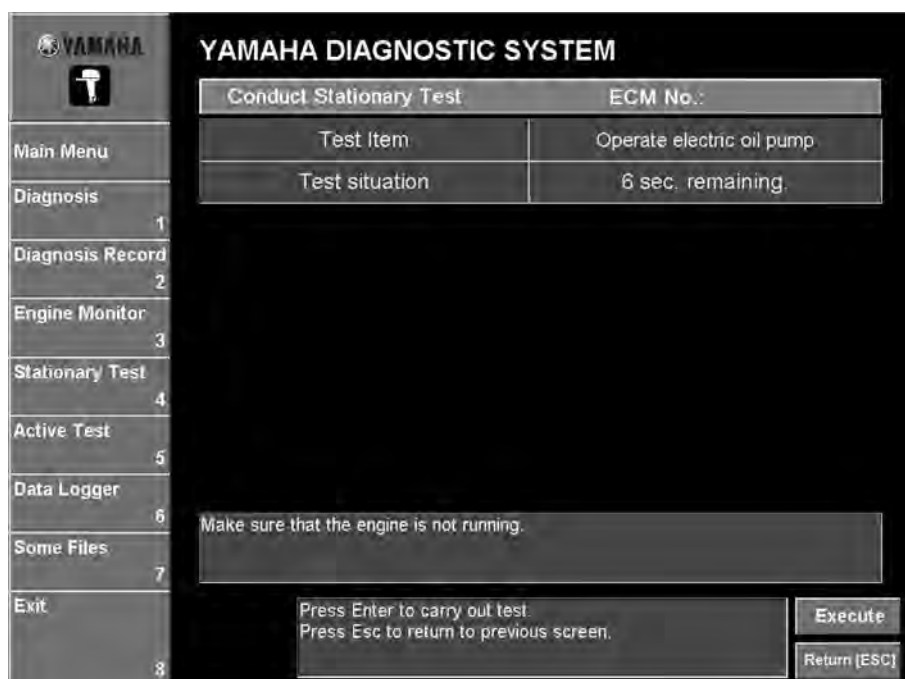

Fig. 81
3. Click the **Execute** button or press the Enter key on your keyboard. (Fig. 81)